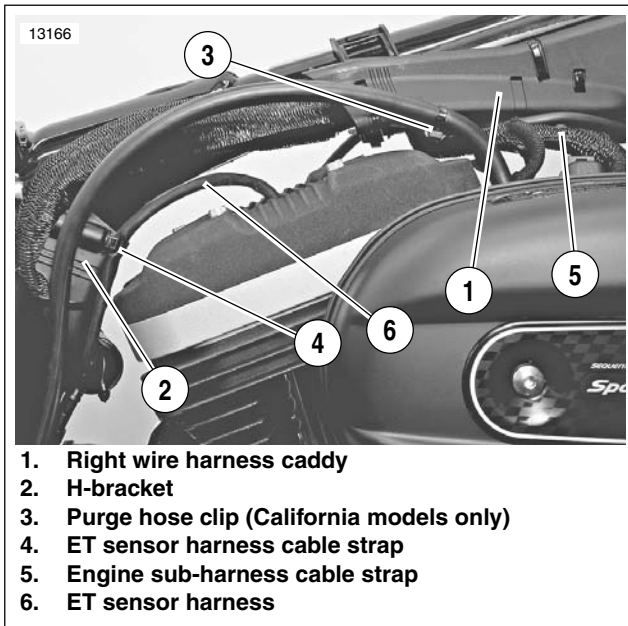

Figure 7-107. Remove/Install Cable Straps
8. See Figure 7-107. Cut cable strap (4) securing ET sensor harness to H-bracket (2).
9. Cut and remove barbed prong on cable strap (5) securing engine sub-harness to right wire harness caddy.
10. **California models:** Cut clip (3) securing purge hose to right wire harness caddy.